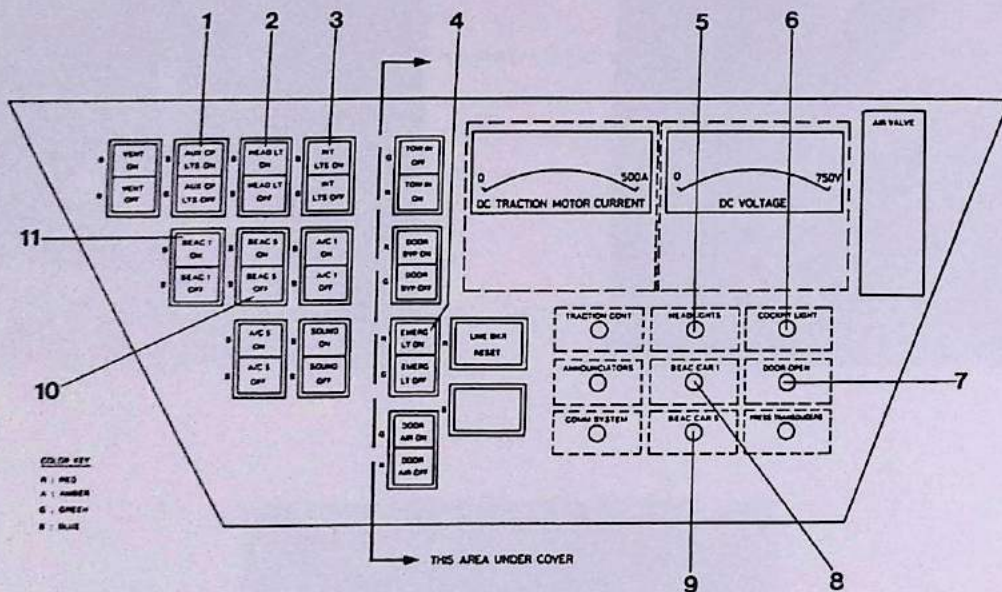

Fig. 3 Controls and Indicators
(4) Controls and Indicators (Fig. 3)